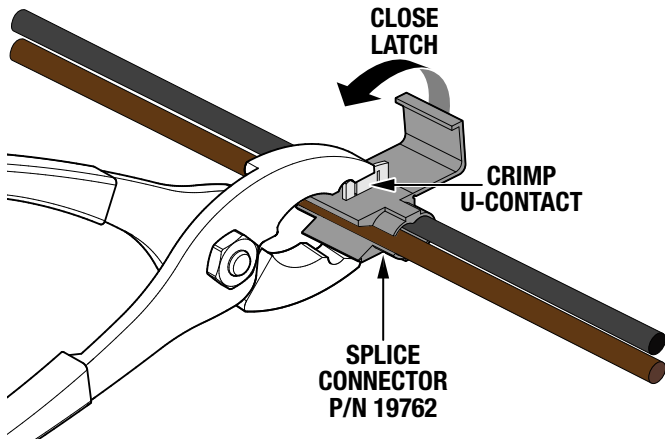

Figure 19. Crimp and Latch Splice Connector
8. Using pliers, crimp the U-contact down flush with the top of the splice connector (P/N 19762). See Figure 19.
9. Close the splice connector latch (Figure 19).